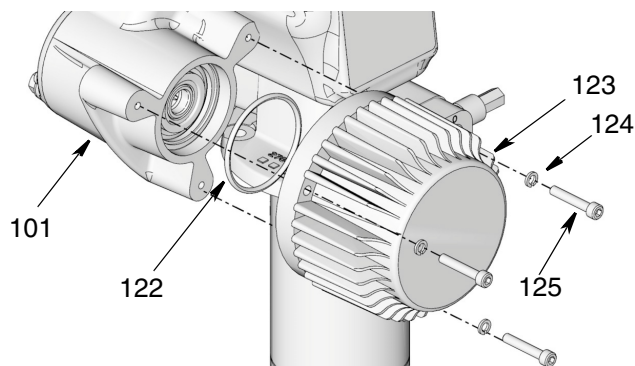

FIG. 56
9. Remove screws (125) and washers (124) holding motor (123) to gear box housing (101). Remove motor. Verify o-ring (122) was removed with motor. (FIG. 56)